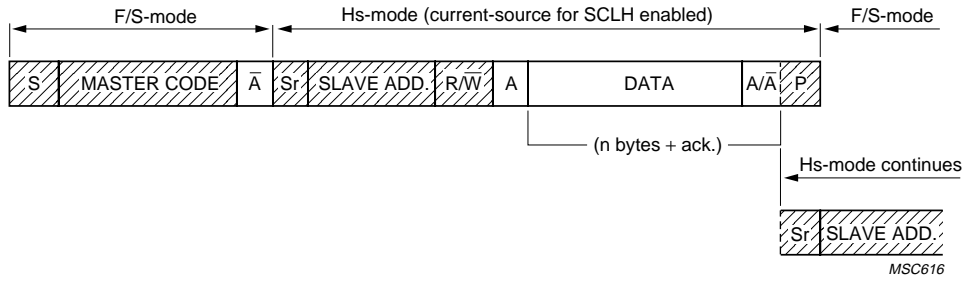

Fig.29 Data transfer format in Hs-mode.
The master code has two functions, as shown in Figs 29 and 30, it allows arbitration and synchronization between competing masters at Fast-mode speeds, resulting in one winner. Also the master code indicates the beginning of an Hs-mode transfer.
A write sequence after the Hs-mode is selected is given in Fig.29. The sequence is initiated with a START condition (S) from the I²C-bus master which is followed by the slave address. All slaves with the corresponding address acknowledge in parallel, all the others will ignore the I²C-bus transfer.